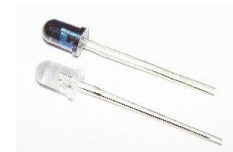

Figure 2: A pair of IR emitter and receiver
An infrared (IR) sensor is an electronic device that emits and detects IR radiation in order to sense some aspect of its surroundings. An IR sensor is composed of an emitter and a receiver (Fig. 2). The basic concept of IR obstacle detection is to transmit an IR signal from the emitter in a direction. If there is an object in the direction, the IR signal bounces back and is received by the IR receiver.